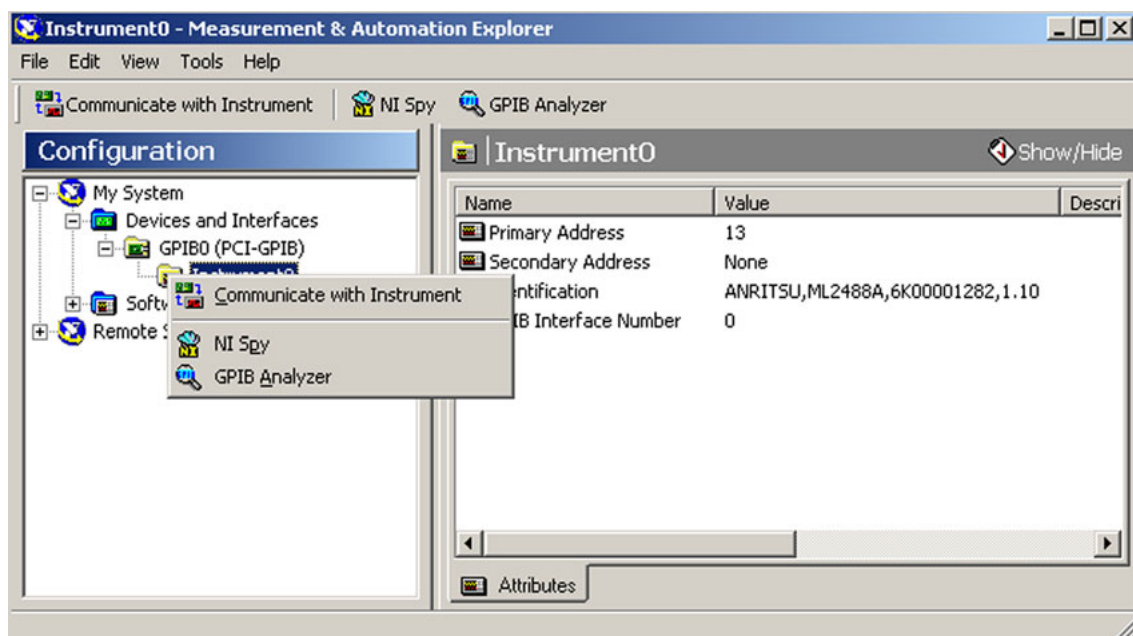

Figure 4-3. Communicate with Instrument
6. Click Communicate with Instrument as shown in Figure 4-3.